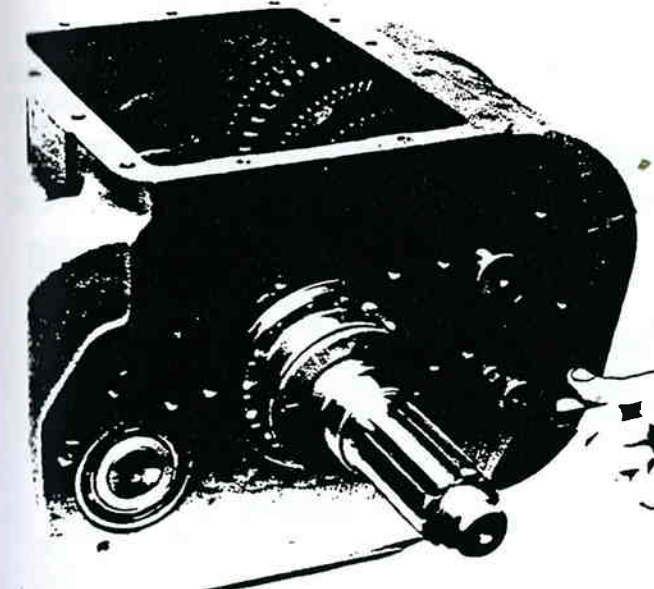

Figure 13-143. Placing Support Tool in Rear Bearing Bore.
2. Insert countershaft support tool in rear bearing bore (figure 13-143).